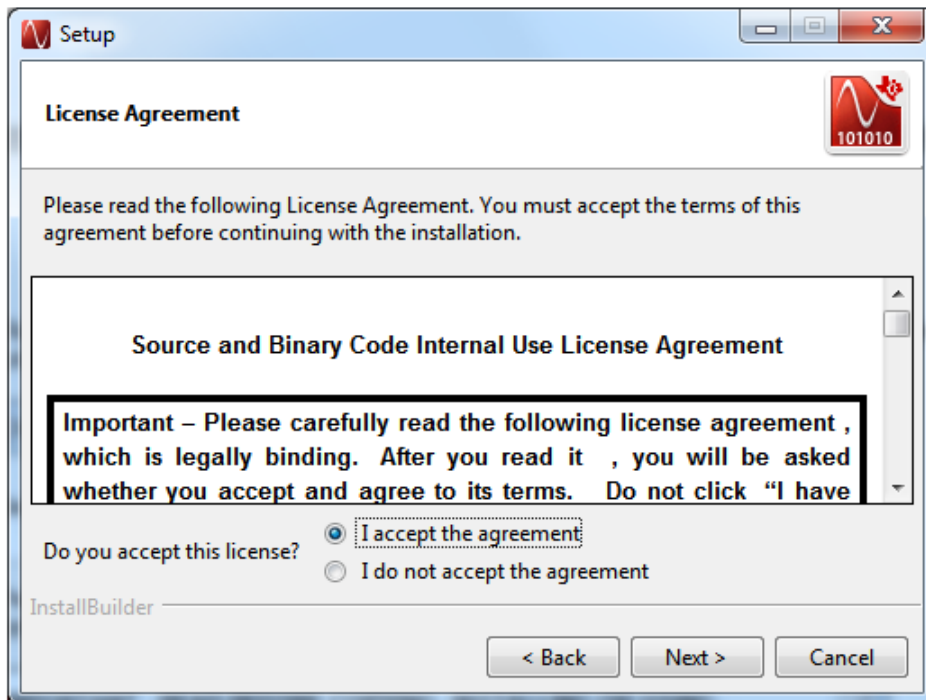

Figure 27. HSDCPro Install (TI License Agreement)
4. Read the License Agreement from Texas Instruments and select *I accept the agreement*, then press the *Next* button as shown in Figure 27.